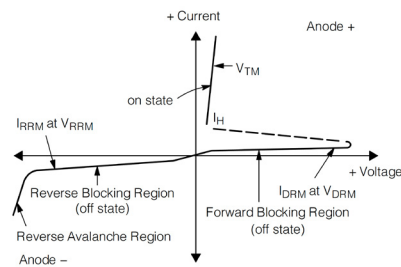

Figure 1. Typical RMS Current Derating
- Ratings apply for $t_w = 1$ ms. See Figure 1 for ITM capability for various duration of an exponentially decaying current waveform, t_w is defined as 5 time constants of an exponentially decaying current pulse.
- 5. Ratings apply for $t_w = 1 \text{ ms}$. See Figure 1 for I_{TM} capability for various durations of an exponentially decaying current waveform. t_w is defined as 5 time constants of an exponentially decaying current pulse.